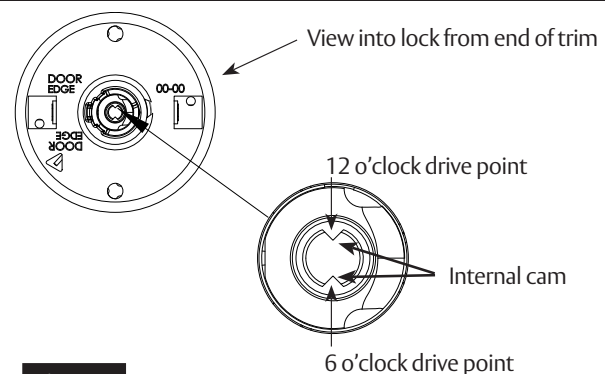

Figure 16
- Use a flat blade screwdriver to rotate cam until the driver points are in a 6 and 12 o'clock position (See Figure 16 on next page).
With driver points at 6 and 12 (See Figure 16), rotate key 45° in either direction and slide lever on over the lever catch. Confirm the lever will not pull off.
1. Remove cylinder lever(s) to view internal cam (See Figure 16).